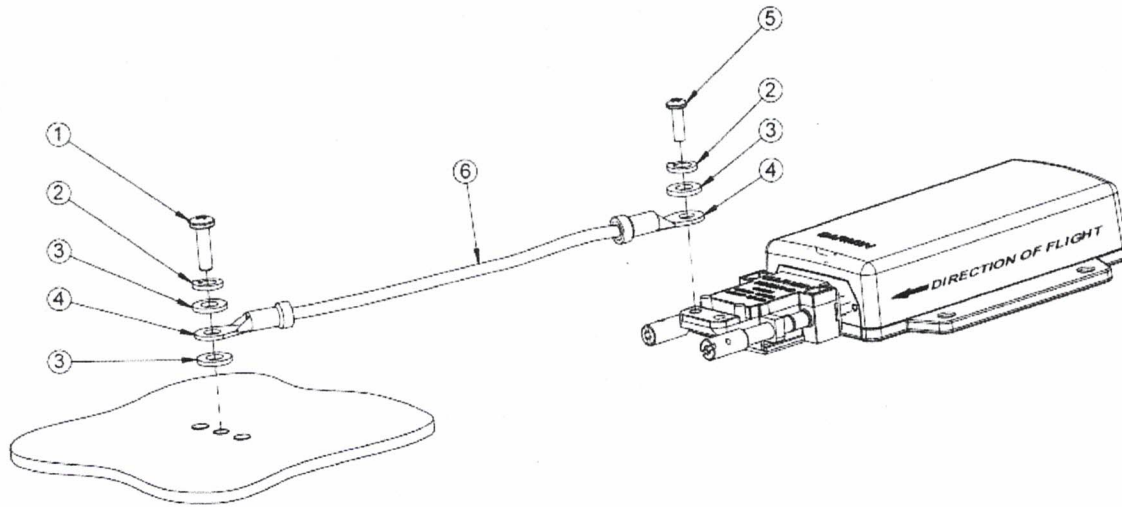

Figure 2. Flight Stream 210 Bonding
The following removal and replacement steps are provided as guidance for replacing the Flight Stream 210 bonding strap. The bonding strap assembly drawing is shown in Figure 2.
3. Secure each end of the bonding strap to the previously installed locations. Ensure that the strap does not loop back on itself and that the hardware is as shown in Figure 2. The washers must seat fully against the aircraft metallic structure without overhang or interference with other hardware.